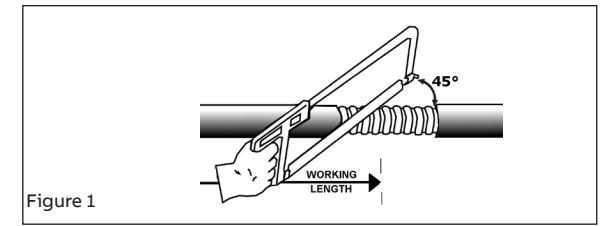

Figure 1
2. Determine the working length (the length of conductor required inside the enclosure or device). Remove a portion of the outer jacket to expose the armor, cut armor using a hacksaw and trim the outer jacket to adjust the exposed armor strip length, as indicated in the table (Figure 1 and 2).